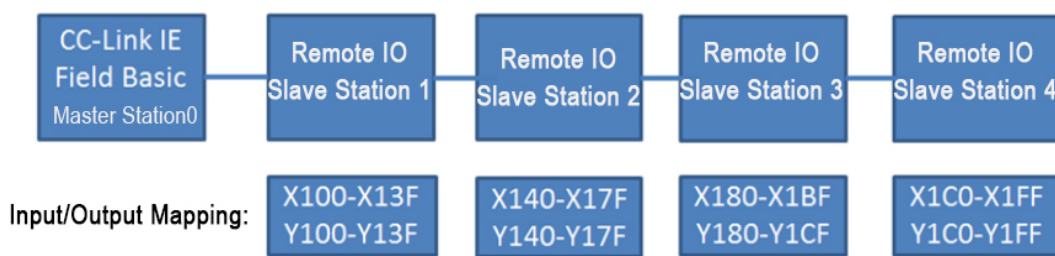

Fig. 5-3-10 Slave Station IO Point Mapping
5. CC-Link IE Field Basic output point reflection method: each slave occupies 64 points, as 64DI and 64DO. The input and output points set here related to starting points X100 and Y100. The reflection of slave station IO points is shown in Fig. 5-3-10.